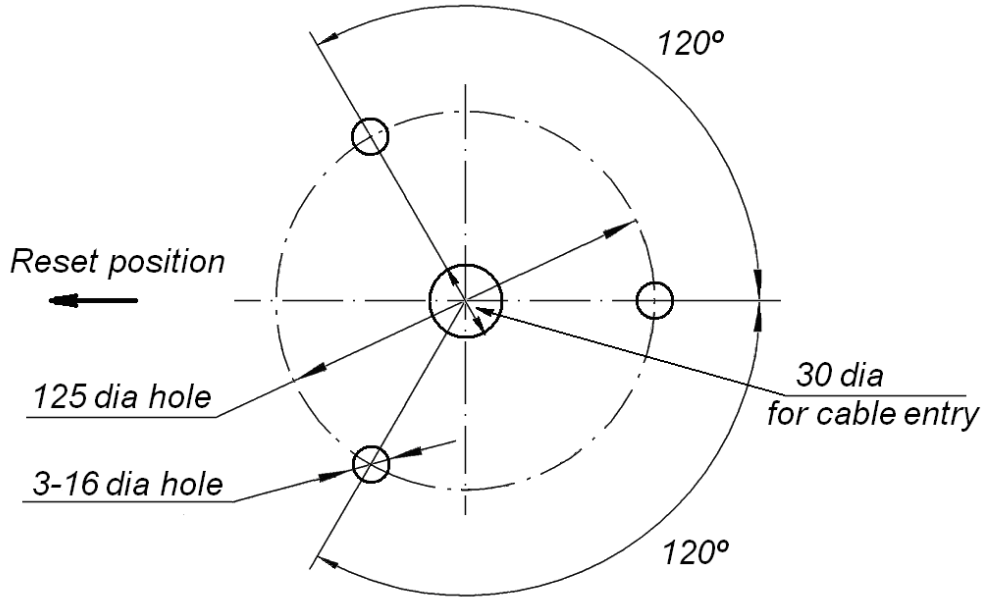

Figure 8. Mounting hole pattern
- to mark the mounting holes according to the enclosed mounting hole pattern (see Fig. 8), the recommendations are given in view of the use of anchor bolts «SORMAT» for solid concrete floors;
2. Mark the mounting holes on the floor as per Figure 8 and electric raceways for the control cable (10) and the power cable (11). Prepare electric raceways and mounting holes on the floor for anchor bolts to fix the gate post. Put the anchor bolts sleeves into the mounting holes. Lay out the control cable (10) and power cable (11) from the CU to the gate post.
3. Take the cable connector block (16), mounted on the spring pins, out of the stationary post with flange (2). Connect the control cable and the power cable to the cable connector block. Install the cable connector block (16) into the stationary post with flange (2) at height suitable for further installation.